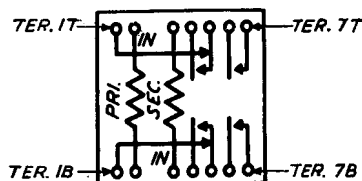

FIG. 2 - WINDING AND SPRING TERMINAL ARRANGEMENT AS VIEWED FROM THE REAR (TERMINAL SIDE) - A, E, F, H, R AND T TYPE RELAYS
2.03 All Terminals (Rear View): Where it is necessary to connect to the winding terminals of relays whose terminals are inaccessible from the front, the terminals are designated TER followed by the terminal number. The terminals are numbered from left to right as shown in Fig. 2. This numbering is specified in the circuit requirement table where winding terminals are inaccessible from the front.